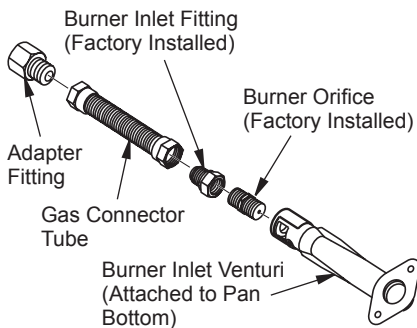

Figure 6 - Connecting Gas to Appliance
2. Remove the nuts securing the gas inlet venturi to the bottom of the burner (see Figure 6).